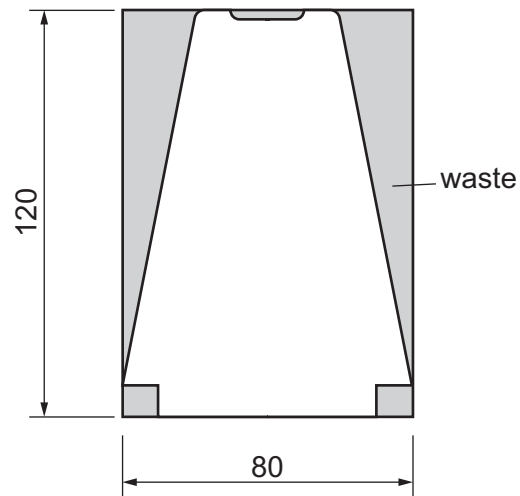

Fig. 12.3
- (b) Fig. 12.3 shows one of the supports marked out, ready to be cut out of 5 mm thick acrylic sheet.